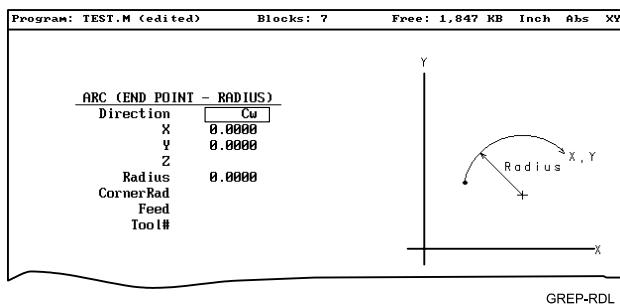

Figure 3-12, ARC (END POINT - RADIUS) Graphic Menu
2. Press **Arc (F4)** to display the **ARC (END POINT - RADIUS)** graphic menu. Refer to **Figure 3-12**.